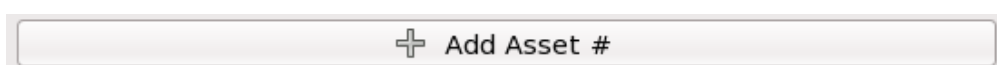
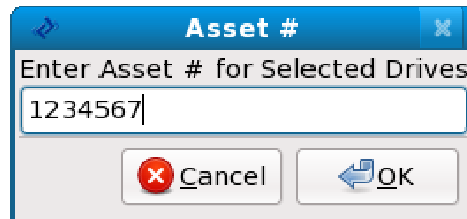

Figure 11: Add Asset Number on main GUI
Figure 12: Asset Number Popup Window
7.2 Add Custom Asset Number. Users may add their own asset tracking number(See Figure 11) to one or many hard drives in the software. An asset number can be an alpha numeric entry done manually or via a USB scanner (See Figure 12).